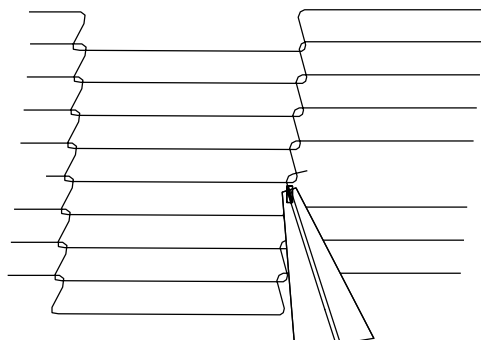

Figure 4-27.
6. Reconnect the inside master links (Figure 4-27.)